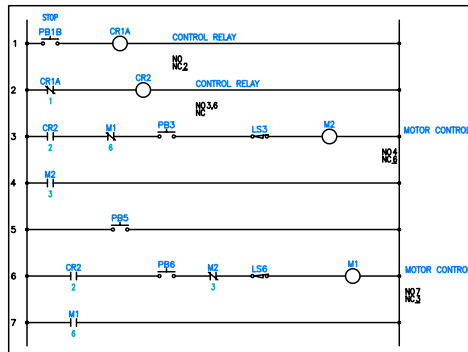

Figure 6-50 The ladder after deleting components
- Select LS1A from rung 1 and LS4 from rung 4, and then press ENTER; the **Search for / Surf to Children?** dialog box is displayed. Choose the **No** button from this dialog box; components are deleted from the drawing, as shown in Figure 6-50.